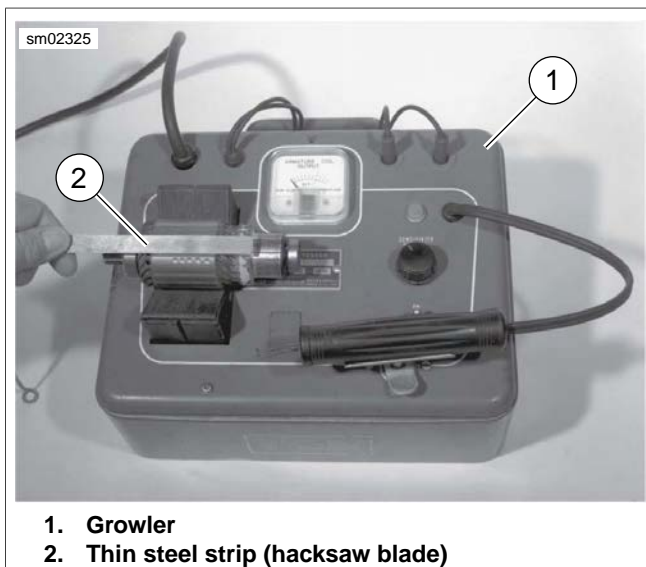

Figure 3-10. Shorted Armature Test Using Growler
- See Figure 3-10. Check for a SHORTED ARMATURE.